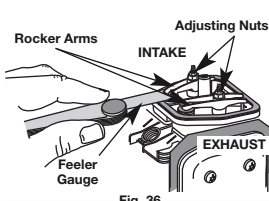

Fig. 36
- The piston is at the top of its travel while looking in the spark plug hole (Fig. 36)